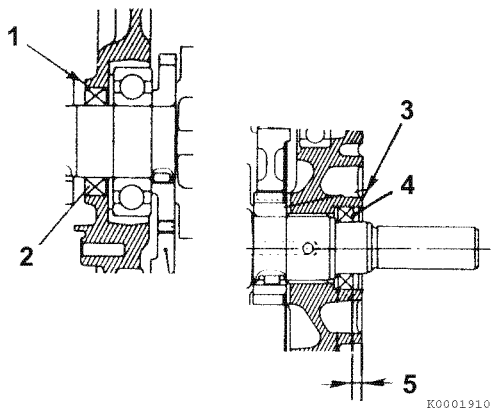

Figure 6-88
2. Use a seal installation tool to install the crankshaft oil seal (4, **Figure 6-88**) into the crankcase cover (3, **Figure 6-88**). Install to a depth of 0.16 in. (4.0 mm) (5, **Figure 6-88**) below the end of the crankcase bore. *See Special Service Tools on page 6-19 for the appropriate tool number.*
3. Install the crankshaft oil seal (2, **Figure 6-88**) into the cylinder block flush with the surface of the cylinder block (1, **Figure 6-88**).